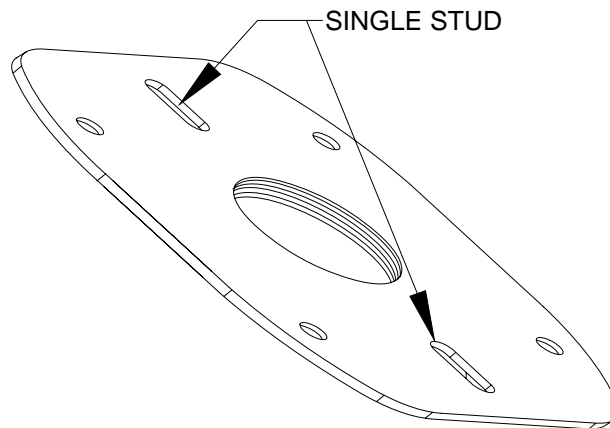

Figure 1. Single Stud Installation
1. Locate the center of the single stud where the Gyrolock® will be installed. The two (2) center mounting points for this installation must be used. Use a stud finder to locate the stud that will be used to mount the PBL (ceiling or wall). It is advised that all holes be pre-drilled with a 1/8" drill bit.
2. Secure the upper plate to the single stud with the two (2) #14 wood screws (supplied).
4. Secure the final wood screw to the center of the upper plate (Figure 1).